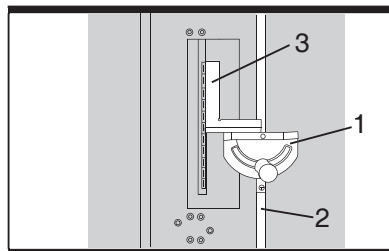
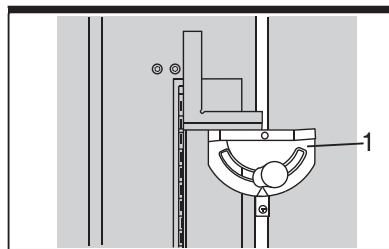

Fig 12
Fig 13
3) Place the mitre gauge (1) in the right hand groove (2) on the table top. Set the mitre gauge to 90° and tighten the gauge handle to lock it in that position.
4) Rotate the blade to bring the marked tooth in the front and about 13 mm above the table top. Place the bar of square (3) flat against the mitre gauge and move the bar toward the saw blade until it just touches the tip of the marked saw blade tooth (See fig. 12).
5) Without disturbing the bar clamped to the mitre gauge (1), move the mitre gauge to the centre of the saw blade. Rotate the blade so the marked tooth is at the rear and about 13 mm above the table top.
6) Slide the mitre gauge rearward until the clamped bar is closest to the tip of the marked tooth (See fig. 13).